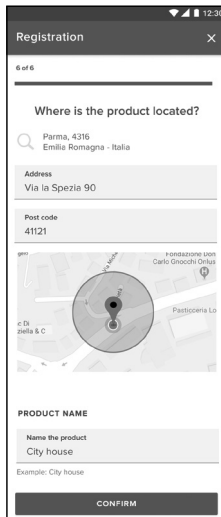

FIG. 8
- Tap the lens icon (FIG. 8) to enter the correct address